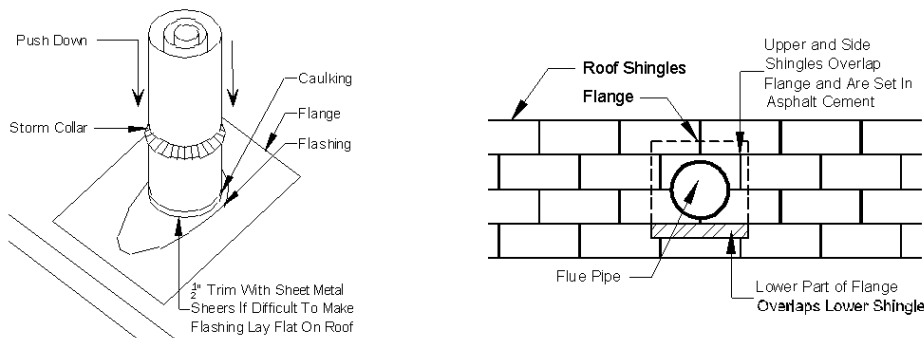

Figure 102. Roof flashing and shingle installation around chimney
5. **Complete shingles.** Cut shingles in successive courses to fit around the pipe and embed them in asphalt cement where they overlap the flashing. Secure shingles with roofing nails through flashing and apply asphalt cement over nail heads. The completed installation should appear as shown in **Figure 102**, with the lower part of the flange overlapping the lower shingles and the side and upper shingles overlapping the flange.